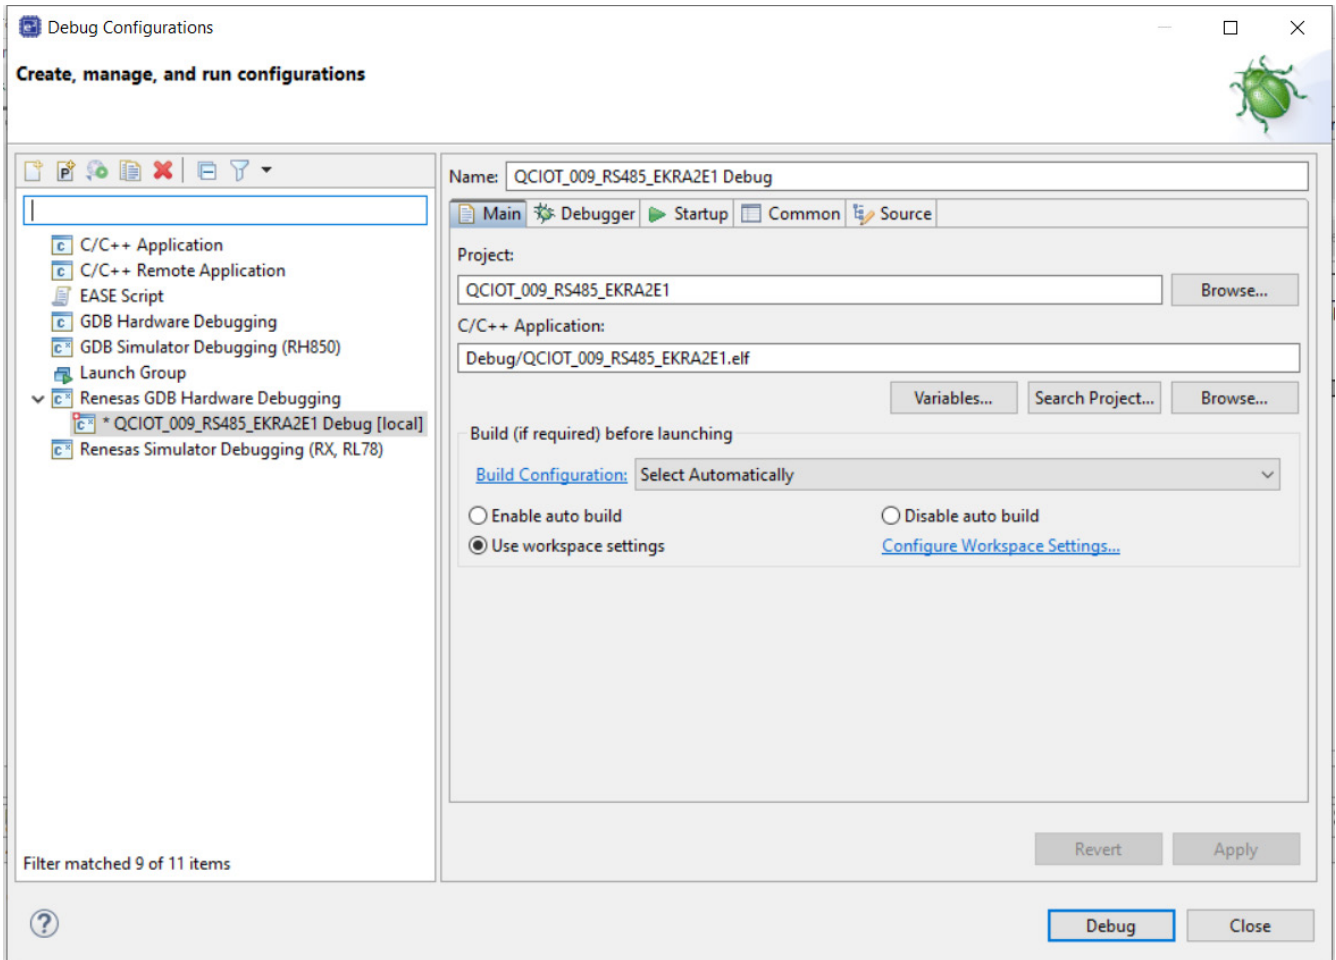

Figure 16. Starting the Debug Operation
3. Select **QCIOT_009_RS485_EKRA2E1_Debug** under Renesas GDB Hardware Debugging. Click on the *Debug* button (see Figure 16).